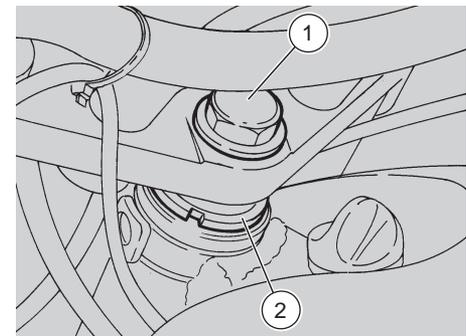

Fig. 43
- ◆ Loosen the nut (1-Fig. 43) and act on the adjusting metal ring (2-Fig. 43) with the apposite key, thus taking up the slack.
- ◆ Tighten the nut firmly (1-Fig. 43).